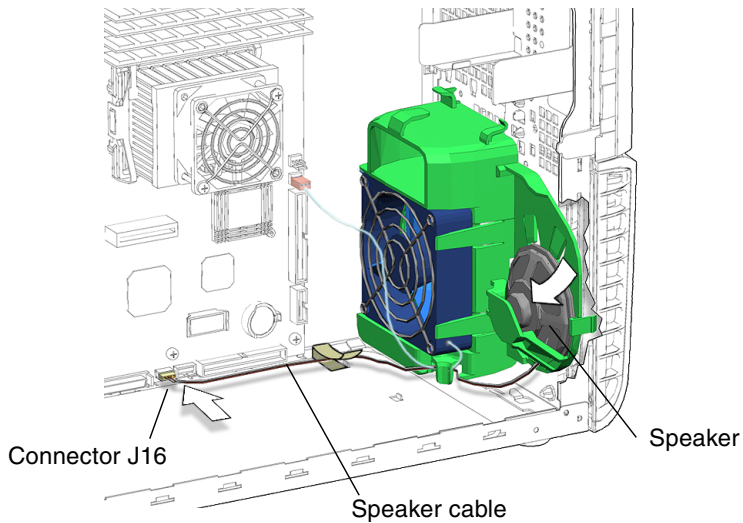

FIGURE 13-36 Aligning and Installing the Speaker and Cable
4. Align the speaker for installation (FIGURE 13-36).